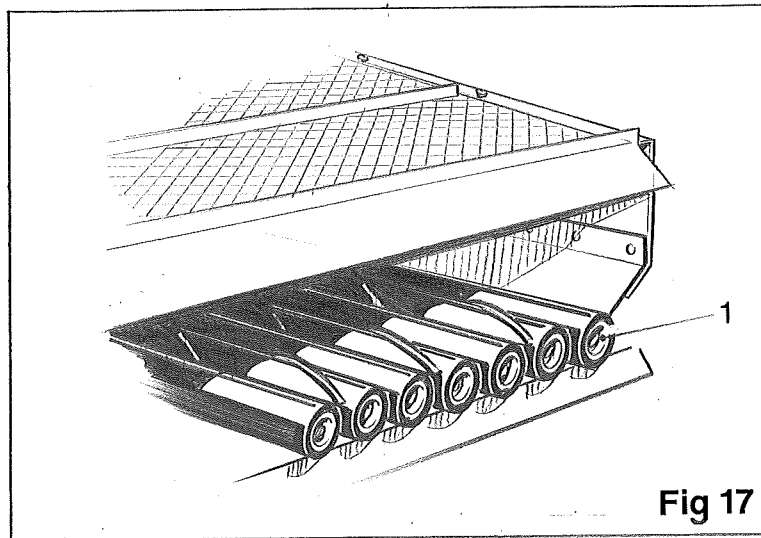

Fig 17
The rollers are retained on the steel shafts by a single bolt (item 1, fig 17) at the discharge end, and located on a spigot at the gearbox end. To remove a roller, remove the bolt (item 1, fig 17) and slide the roller off the discharge end of the shaft. The rollers are a close fit on the spigot and may need to be prised off the spigot in some cases. Replacement is the reversal of removal.